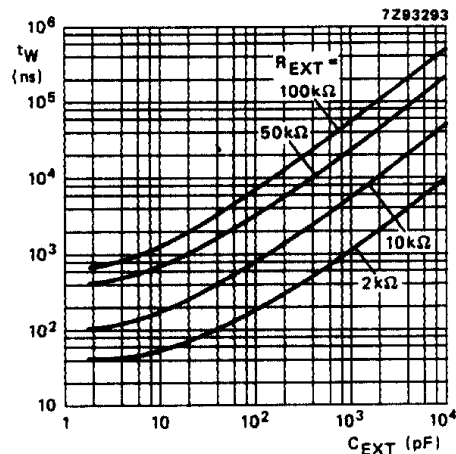

Fig.9 Typical output pulse width as a function of the external capacitor values at $V_{CC} = 5.0\text{ V}$ and $T_{amb} = 25\text{ }^{\circ}\text{C}$.
- For other R_{EXT} and C_{EXT} combinations see Fig.9.